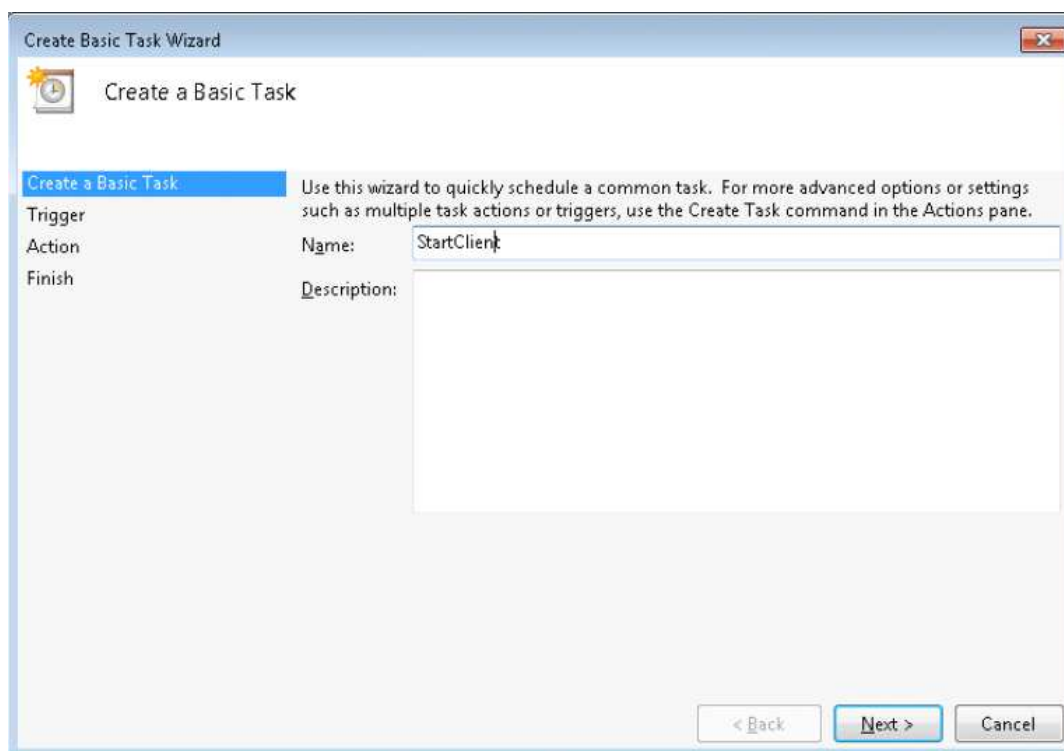

Fig. C.36: Create Basic Task Wizard window
STEP 3 – In *Create Basic Task Wizard* window please insert the task name and then click *Next* (Fig. C.36).